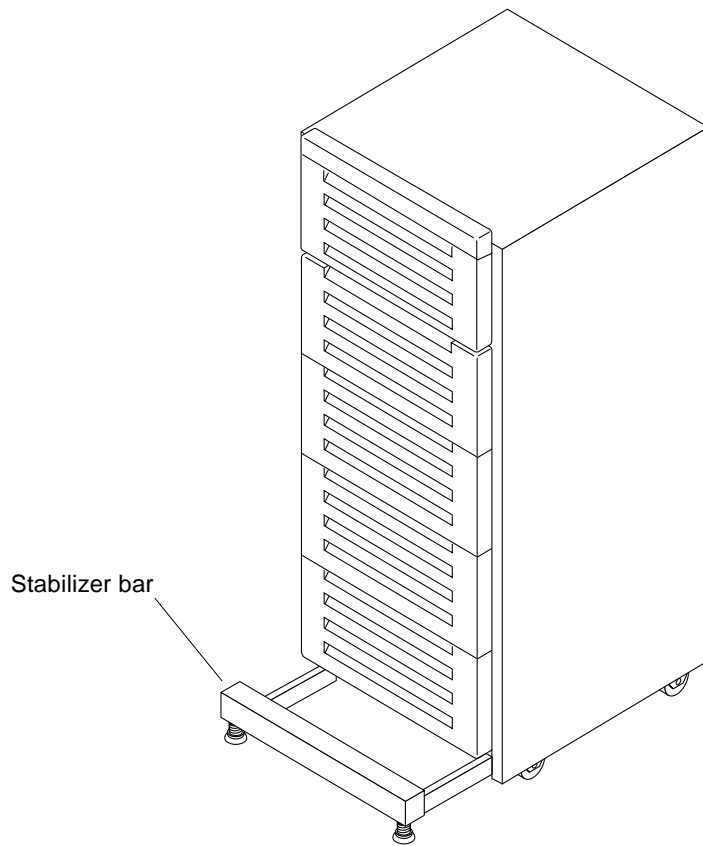

FIGURE 1-3 Stabilizer Bar
**2. Fully extend the stabilizer bar from the bottom of the cabinet (FIGURE 1-3).**